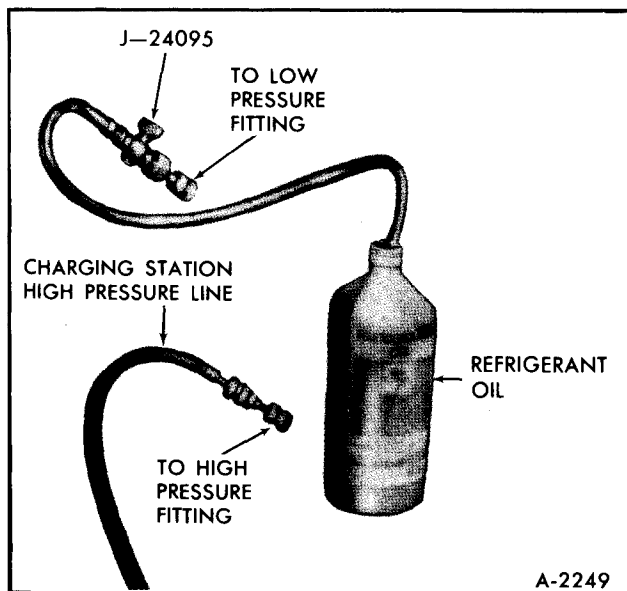

Figure 29—Adding Refrigeration Oil
- a. Disconnect the Charging Station low pressure line. Install Tool J-24095 (with valve closed) onto the system low pressure fitting. Insert pickup tube into graduated container of clean refrigerant oil (figure 29).